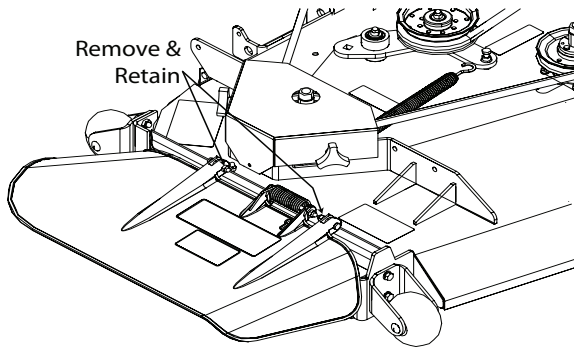

**Figure 3-32. OCDC Discharge Chute Installation**
20. Install the OCDC discharge chute to the cutter deck. Secure using two (2) 5/16-18 x 1-3/4" bolt and two (2) 5/16-18 elastic stop nuts. See Figure 3-32.
22. Secure the upper control link to the OCDC discharge chute using one (1) 5/16-18 x 1-1/2" bolt and one (1) 5/16-18 elastic stop nut.